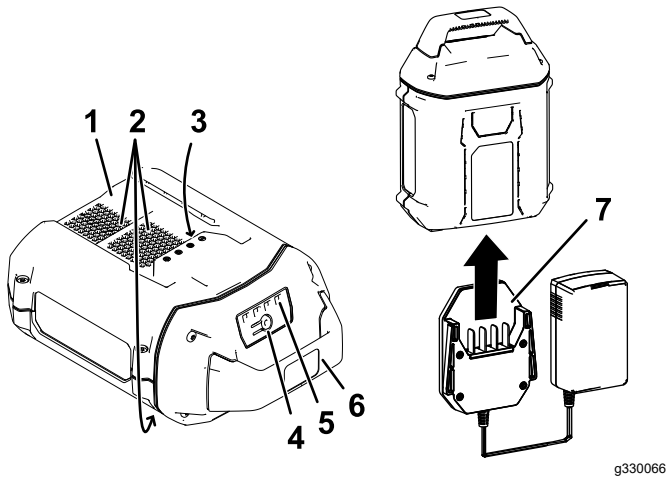

Figure 13
2. Line up the charger with the cavity on the back of the battery pack (Figure 13).
3. Slide the charger into the battery pack until it is fully seated (Figure 13).